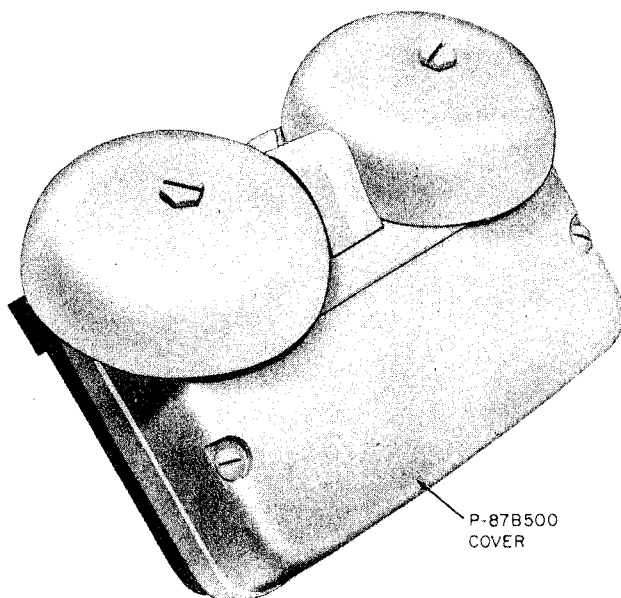

Fig. 1 — L1A Ringer (Assembled)
2.01 The L1A ringer is a single-coil, high impedance, loud ringing signal for indoor or outdoor use. The ringer has a 2-position bias spring and consists of the components as shown on Fig. 1 and 2.